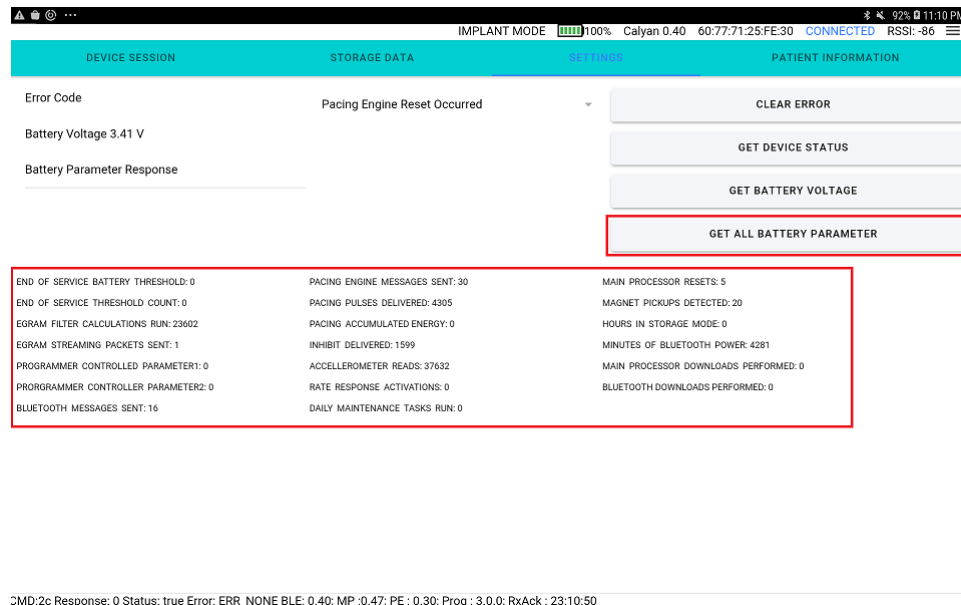

Figure 191: Get All Usage Counters
1. Tap the “GET ALL BATTERY PARAMETER” button (Figure 191).
2. The result is displayed in the scrollable area under “Battery Parameter Response” (Figure 191).